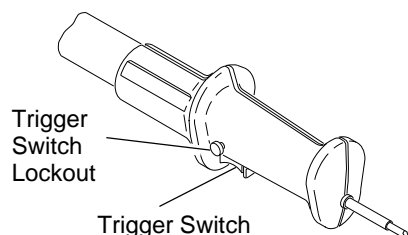

Figure 10 - Pole Saw Handle with Trigger Switch Lockout
- When ready to make a cut, press in trigger switch lockout and squeeze trigger switch (see Figure 10). This will turn Pole Saw on. Releasing trigger switch will turn Pole Saw off. Make sure saw is running at full speed before starting a cut.